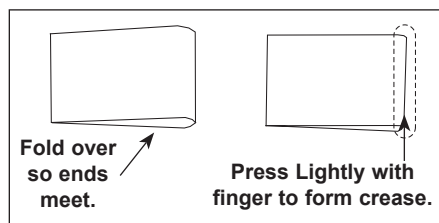

Figure 8. Folding the Release Sheet
2. Lay a new Release Sheet on a clean, dry surface and fold it in half lengthwise and gently crease it at the fold using only your fingers (Figure 8).